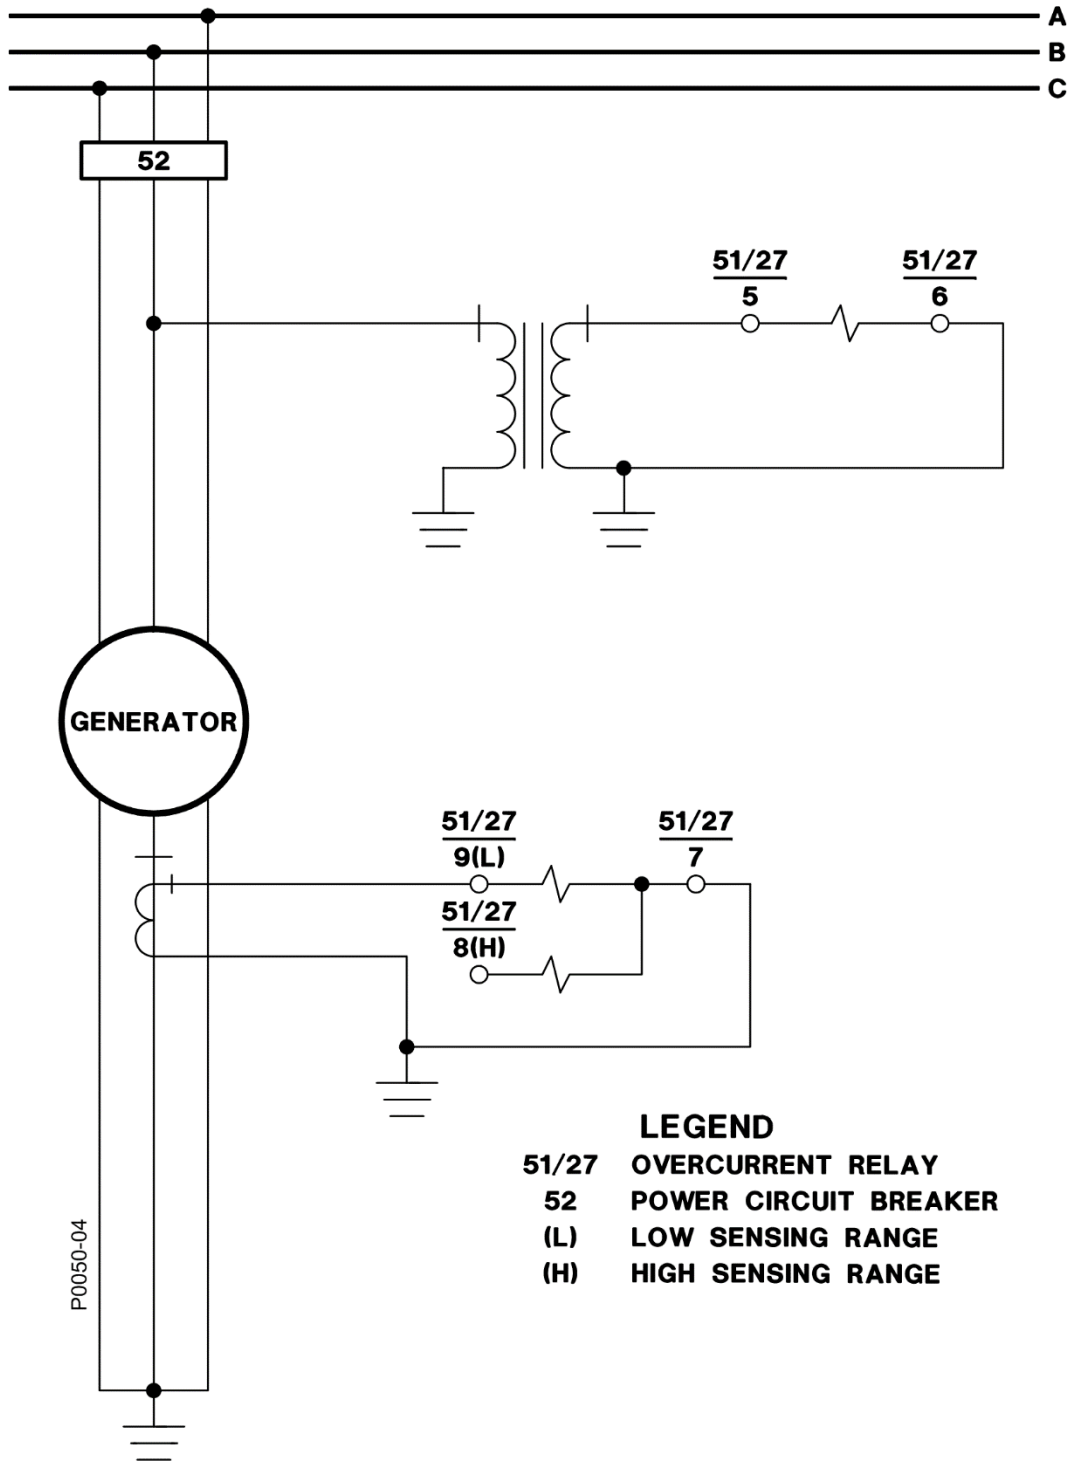

Figure 4-14. Typical Sensing External Connections, Sensing Input Type M or N
- Figure 4-14: Typical Sensing External Connections, Sensing Input Type M or N